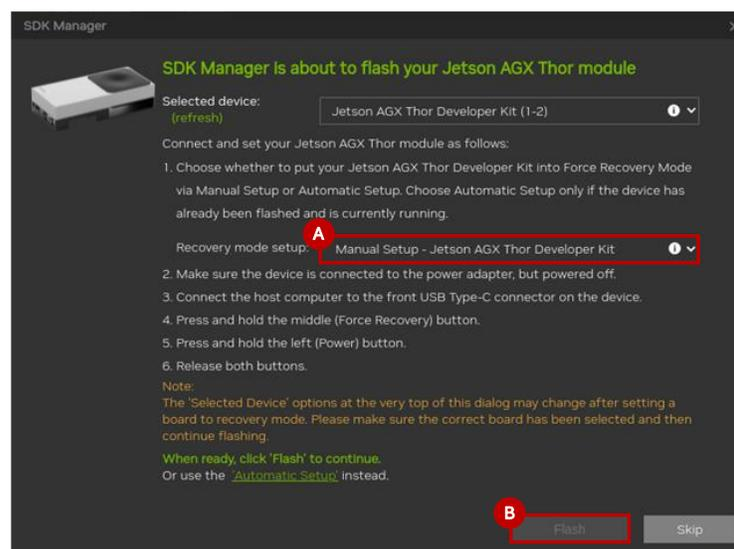

Figure 6.20. Recovery Mode Selection
- After the installation completes, the SDK Manager displays a dialog box to flash the target device. Select **Manual Setup – Jetson AGX Thor Developer Kit** (see letter A) in the **Recovery mode setup** shown as in Figure 6.20 to begin flashing the target device. Refer to the Recovery mode step for details.